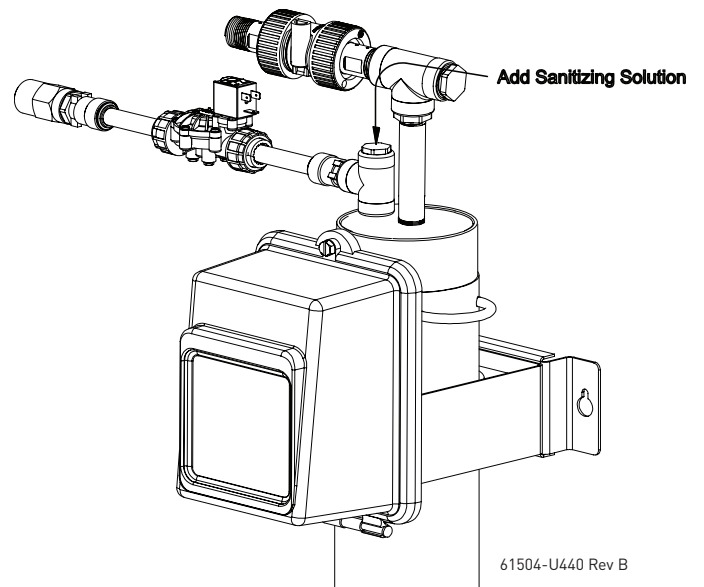

Figure 9 Adding Sanitizing Solution
7. Through the sanitizing port fill the FreshPoint housing with a solution containing chlorine at 100 mg/l (1-½ teaspoons of unscented bleach in 1 gallon of clean water). See Figure 9 Adding Sanitizing Solution.